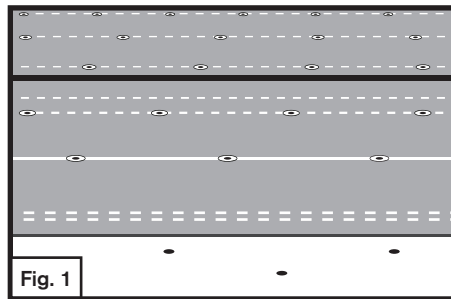

Fig. 1
Step 5. Nail the starter course at 6 inches on center across the center of the sheet using 1 inch diameter metal cap nails. See Fig. 1
All additional courses will require 2 rows of nails at 6 inches on center, evenly spaced vertically, and staggered down the center of the sheet. All end laps should be overlapped a minimum 6 inches. See Fig. 1
- Install the roof flange of the edge metal over the base sheet at the lowest point on the roof. Nail the edge metal 4 inches on center in a staggered pattern. See Fig. 1
Step 5. Fold the aligned sheet back half way exposing the release liner. See Fig. 1
Step 6. Peel release film at a 45° angle in a constant motion, while firmly holding the half of the sheet that is in contact with the roof in place as the liner is removed. See Fig. 1
Step 5. Fold the aligned sheet back half way, exposing the split release liner. See Fig. 1
Step 6. Remove release liner at a 45° angle in a constant motion, while firmly holding the half of the sheet that is in contact with the roof in place as the liner is removed. See Fig. 1